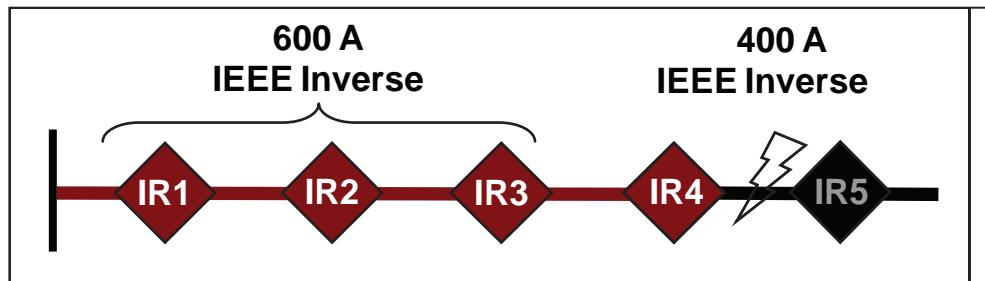

Figure 20. CEC temporary fault; IR2 and IR3 shift to a slower TCC curve.
- IR2 and IR3 shift to a slower TCC curve. See Figure 20.